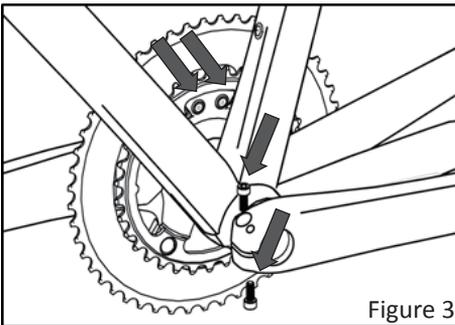

Figure 3
Step 1: check if all bolts are tightened to the correct torque value, as shown figure 3.